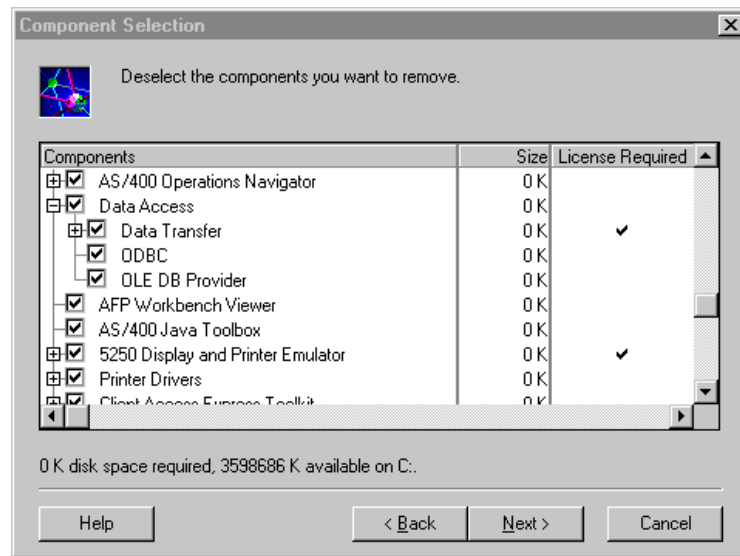

Figure 115. Component selection
- The Custom installation choice allows you to choose which components to install, including components that require a license. Components that require a license are identified as shown in Figure 115.